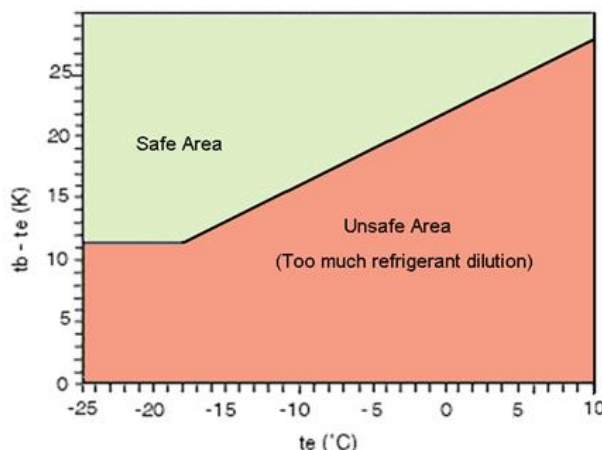

Figure 13: Oil dilution chart (tb = bottom shell temperature; te = evaporating temperature)
- **liquid floodback and oil dilution test:** all possible transient operation conditions in the system should be checked, eg, compressor frequent start/stop, compressor start after long off time with migration, defrost, switching between the operation modes in reversible systems, load changes, fans or pumps cycling at low load and more. To evaluate the risk of liquid floodback or oil dilution, please refer to the chart in **Figure 13** below. The bottom shell temperature of the compressor and the evaporating temperature have to be monitored.
The bottom shell temperature together with the evaporating temperature gives an indication whether liquid refrigerant is returning or diluted in the compressor oil sump. The compressor sump temperature must remain in the (green) safe area, as shown in the oil dilution chart in **Figure 13**. In case of operation in the (red) unsafe area, adjustments are required in order to modify the system design, refrigerant charge or superheat setting of the expansion device(s). The bottom shell temperature should be measured accurately. The thermo-probe must be properly insulated and positioned on the lower part of the compressor shell, preferably in the oil collection area, opposite the end with the discharge connection.